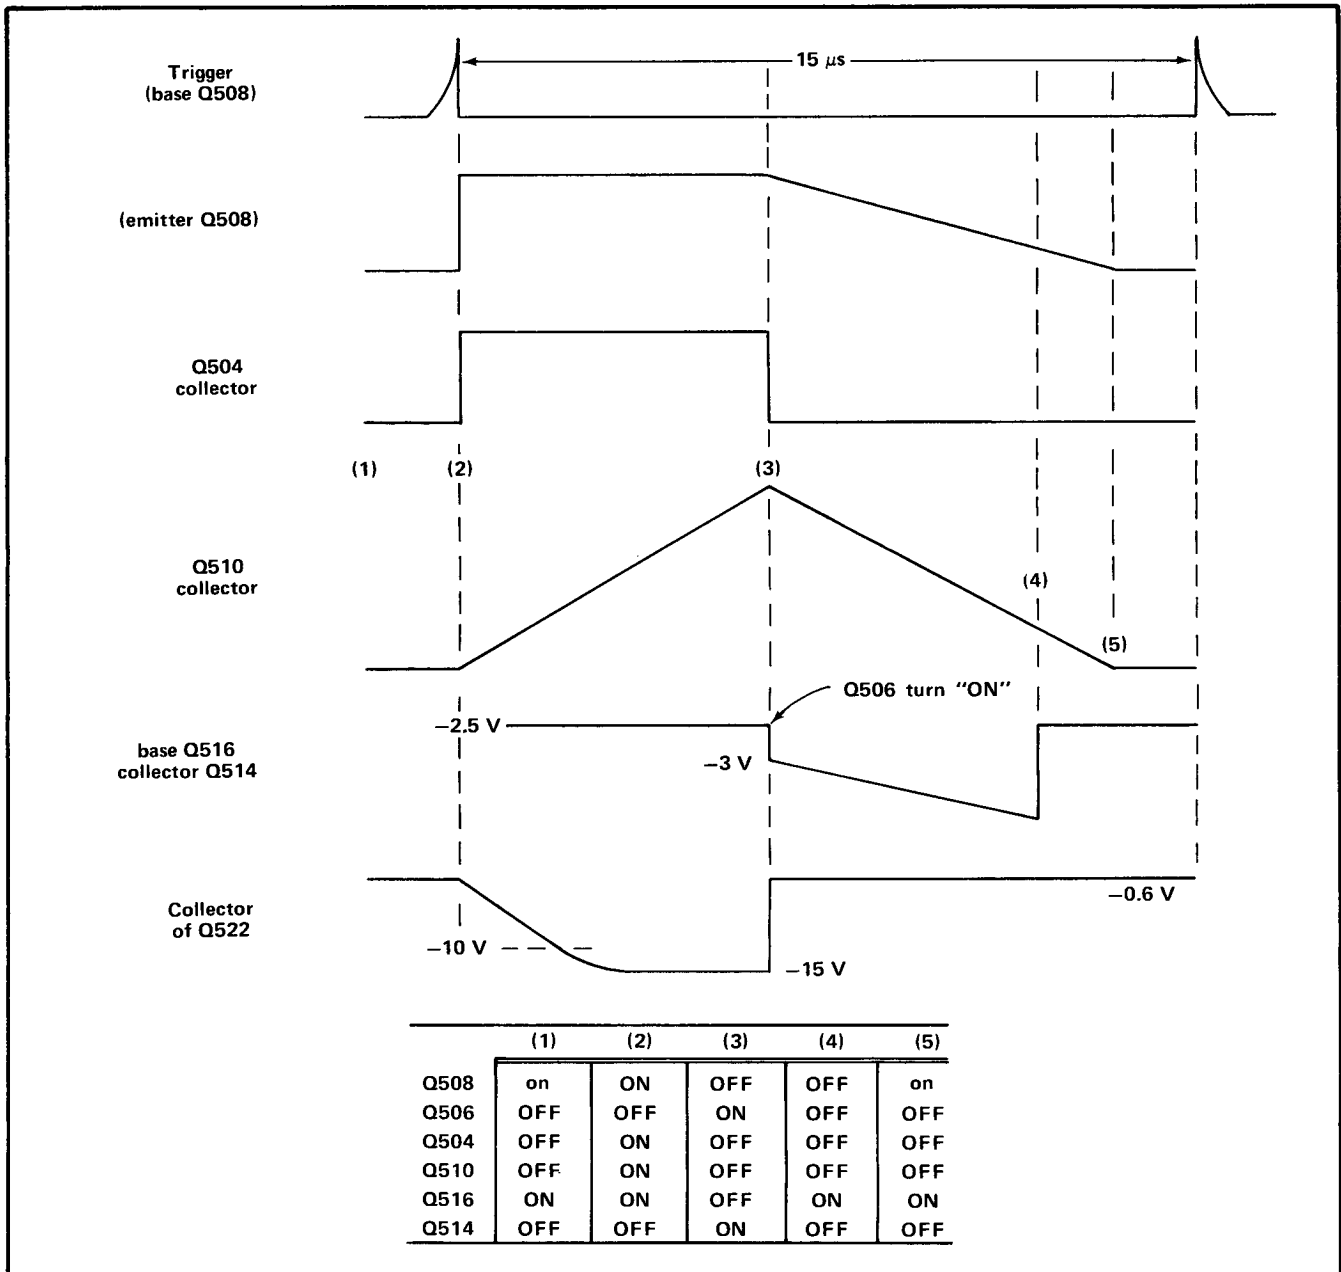

Fig. 3-11. Transistor signal waveforms and conduction levels table for the Trigger Circuit and the Trigger Holdoff.
3-11. Reference to this information will aid in understanding the sequence of events in the Trigger and Trigger Hold-off Circuits. Transistor Q508 conducts at all times, but has two conducting levels. In the table portion of Fig. 3-11, the low current state (about 0.33 mA) is indicated using small letters "on" and heavy current conduction by capital letters "ON".
Prior to the arrival of the trigger pulse from the S-series head (time 1), the state of transistors in the Trigger and Trigger Hold-off circuits is shown in the table portion of Fig. 3-11. Looking down the column headed (1) shows that
When a trigger is applied to the base of Q508 (time 2 on Fig. 3-11) current through Q508 increases due to the presence of capacitor C508.